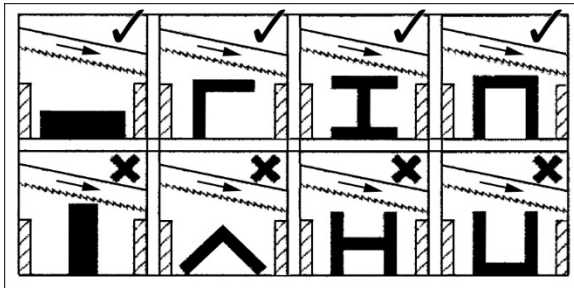

Figure 8-1: clamping positions
2. Position workpiece in vise and tighten vise. Workpiece should be fitted directly between jaws without adding other objects. When workpiece is profiled section, flat piece or special shape, refer to examples in Figure 8-1 for proper clamping positions. The top row shows acceptable clamping positions, the bottom row shows **unacceptable** positions.